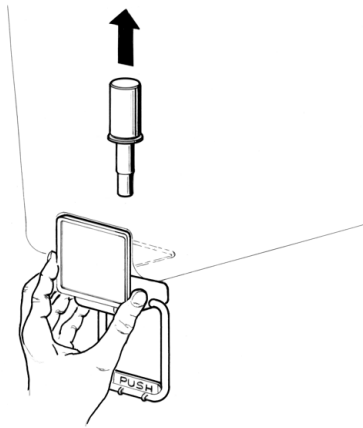

figure 3
**6 Gravity faucet:** extract the piston and then remove the dispensing handle (see figure 3).